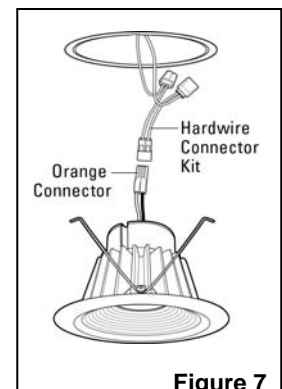

Figure 7
- Remove the socket adapter from the box. Cut both adapter wires close to the socket adapter and away from the orange connector, and discard the socket. Remove the (2) red splice-connectors from the hardwire kit bag. Pair the housing and orange connector wires by color into each red connector. Firmly squeeze the metal U-shaped insert into the wires. Flip the cover closed to secure and insulate the connection. (See Figure 7)